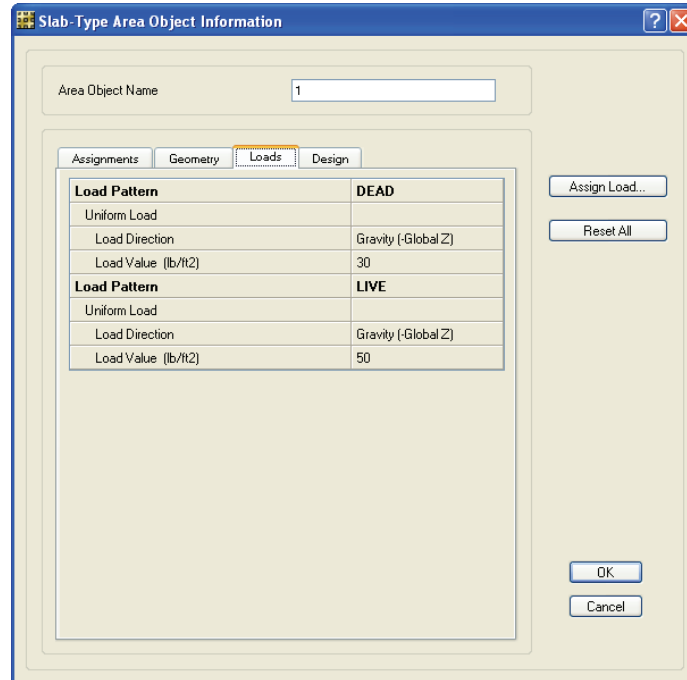

Figure 36 Slab-Type Area Object Information form
- L. To review the assignments to the slab, **right** click on the slab anywhere that is *not* a beam, wall, column, drop-panel or opening to access the Slab-Type Area Object Information form shown in Figure 36.